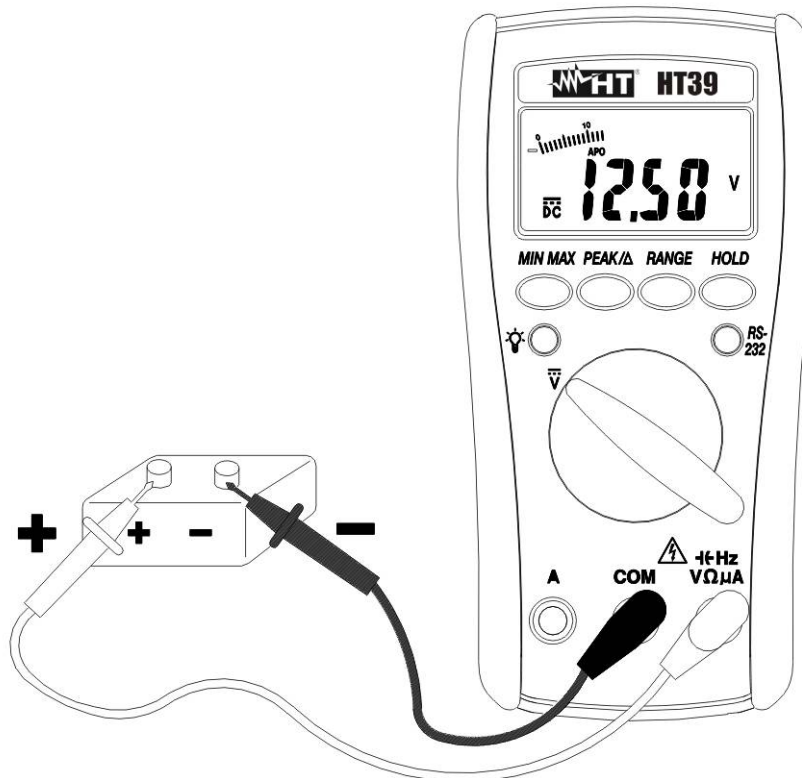

Fig. 3: DC voltage measurement
2. Insert the test leads into the jacks, the red plug into $\overline{+}$ HzV Ω μ A jack and the black plug into **COM** jack (Fig. 3).
6. The symbol "-" on the display means that voltage has opposite direction than shown in Fig. 3.